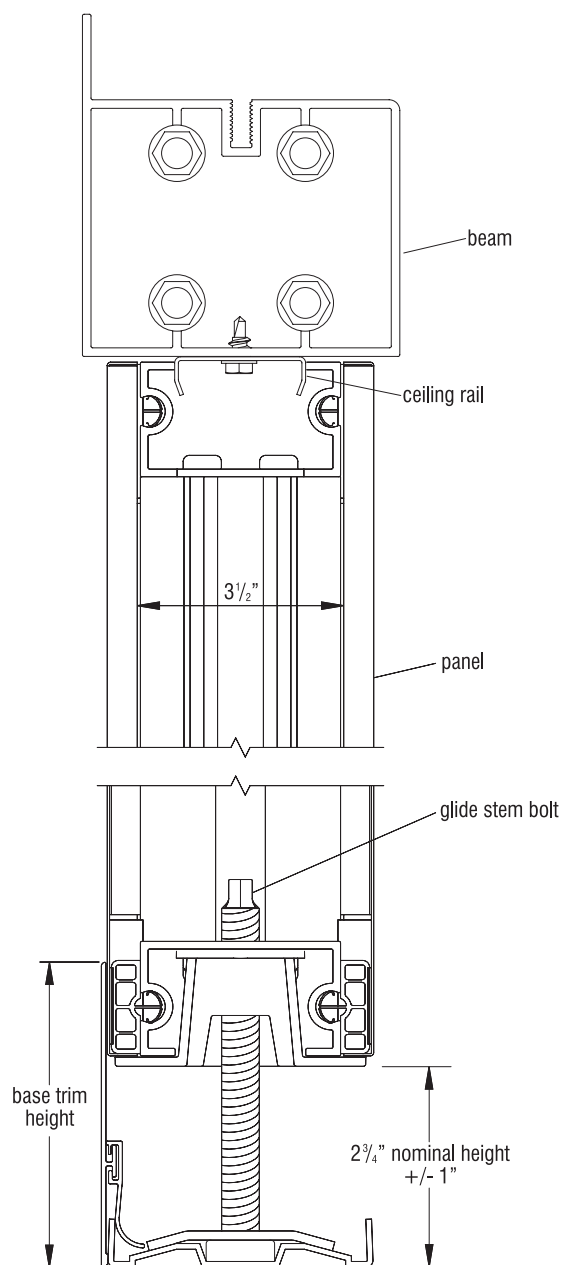

Figure 7 - Evoke Height Adjustment
15. Adjust the level and height of the panel as required by rotating the glide stem bolt using a power drill, 18" socket extension and a  $\frac{5}{16}$ " socket. To raise the panel, rotate the bolt clockwise. To lower the panel, rotate the bolt counter-clockwise (Figure 7).
16. Ensure that the panels are properly aligned by leveling in both the horizontal and vertical directions, referencing Figure 7 dimensions.
18. As panel heights are adjusted, periodically use a test section of the base trim to confirm that heights are within adjustment limits. Also check the top clearance to ensure proper ceiling rail engagement (Figure 7).